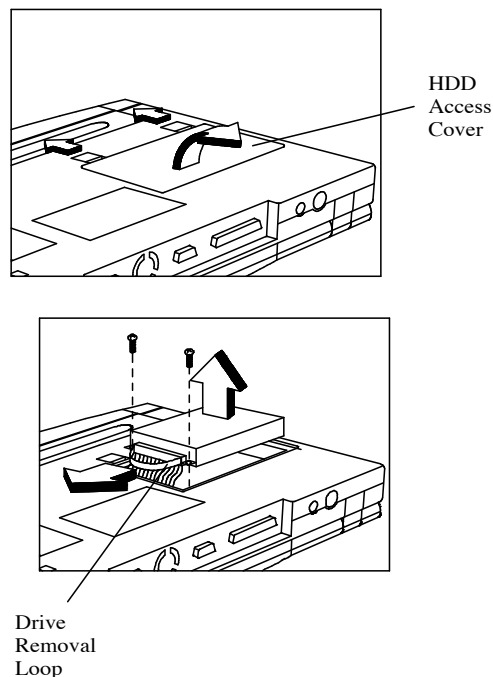

Figure 6-9 Removing/Replacing the Hard Disk Drive Module
3. Turn the computer over and remove the hard disk drive bay cover (refer to Figure 6-9).